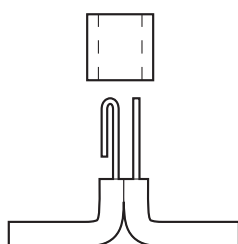

Figure 7
- (b) Strip back the insulation so that the enough wire is exposed to fit into the sleeve in the configuration shown in Figure 7.